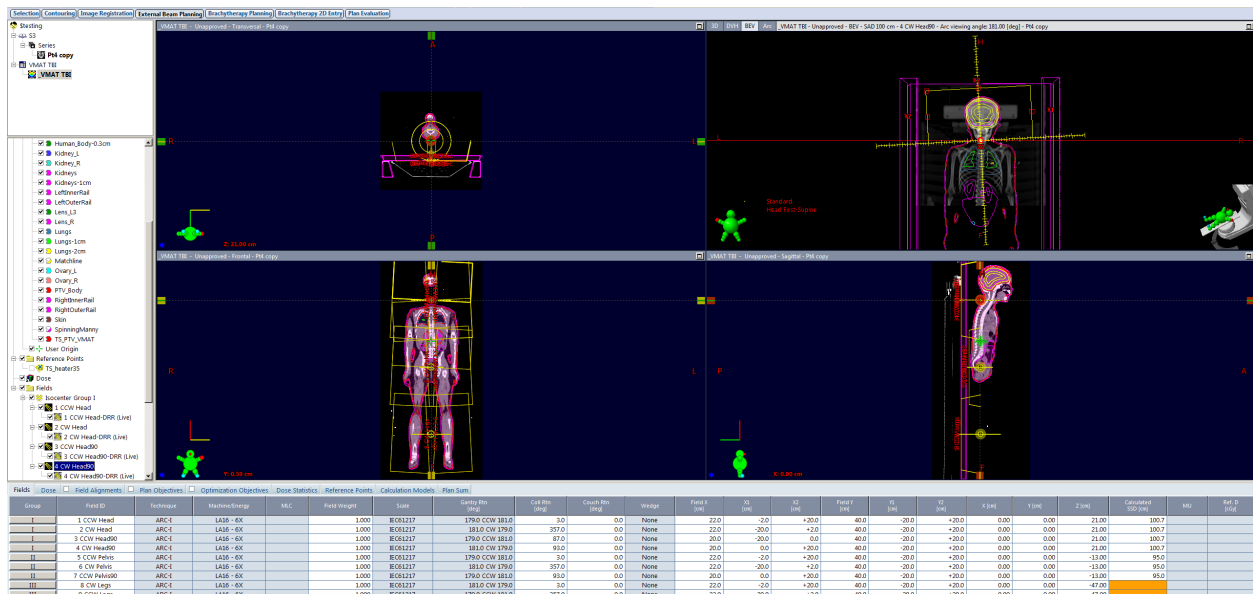

Figure 7: Output from the VMAT TBI autoplanning script.
- Example final output from the script for a VMAT-only patient (Figure 1) is shown in Figure 7